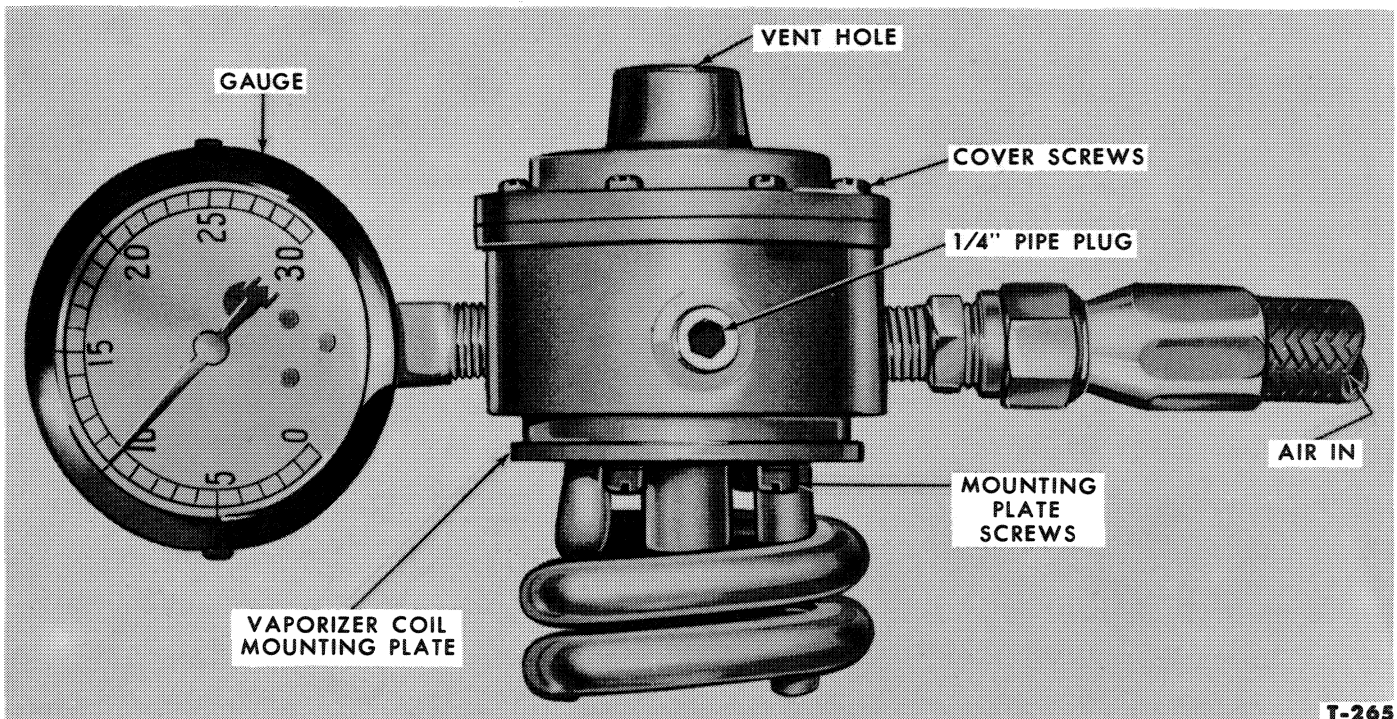

Figure 24—Checking Vaporizer for Leaks
11. Connect a 0 to 30 psi gauge to one of the three vaporizer outlets. Close the remaining outlets with ¼" pipe plugs, Figure 24.